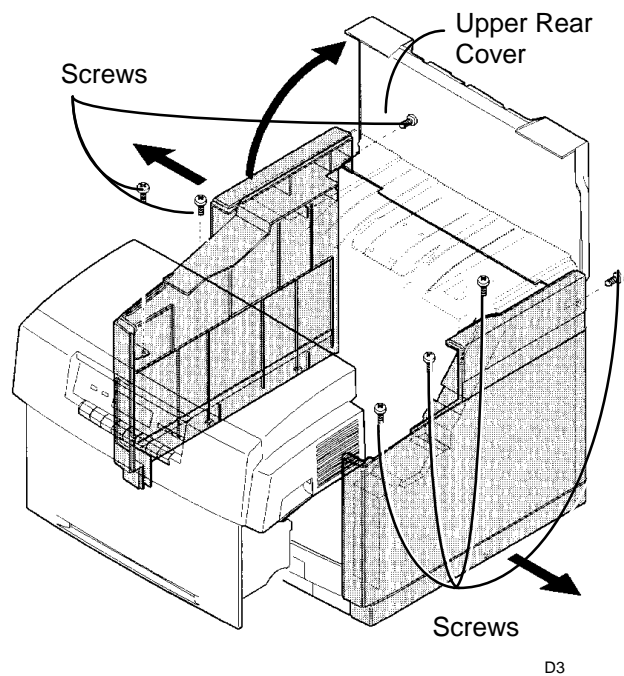

Figure 1. Removing the Side Covers
2. (Figure 1): Remove the screws and remove the Side Cover.